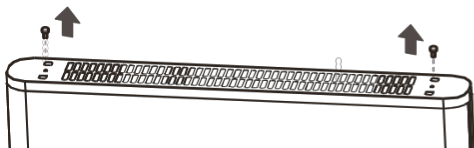

Figure 1
1. According to fig.1, turn the body down with the bottom upward, and the screw out onboard screws.